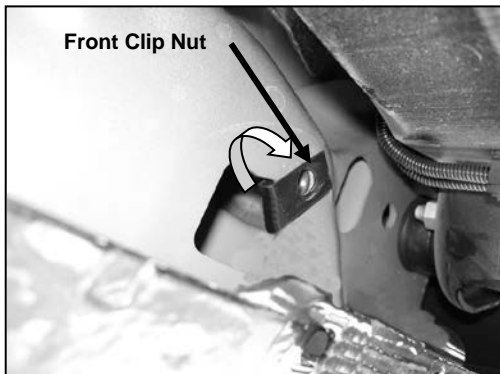

Figure 1
- From underside of vehicle, locate the two front factory holes on the driver side floor panel located by the front tire. With the threaded nut facing up, insert (1) 10mm Clip Nut through larger hole. Orient Clip Nut to engage in the smaller hole (**Figure 1**).